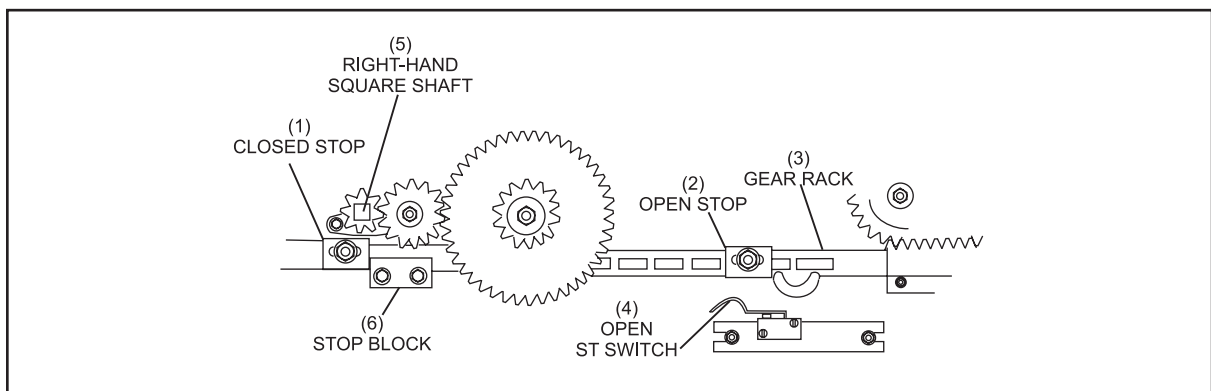

Figure 8-6. Spotting Tongs Closed.
3. Turn the spotting tong square shaft until the spotting tongs are completely closed. The "ST" switch should be open and the closed stop should be against the stop block. Refer to *Figure 8-6*.